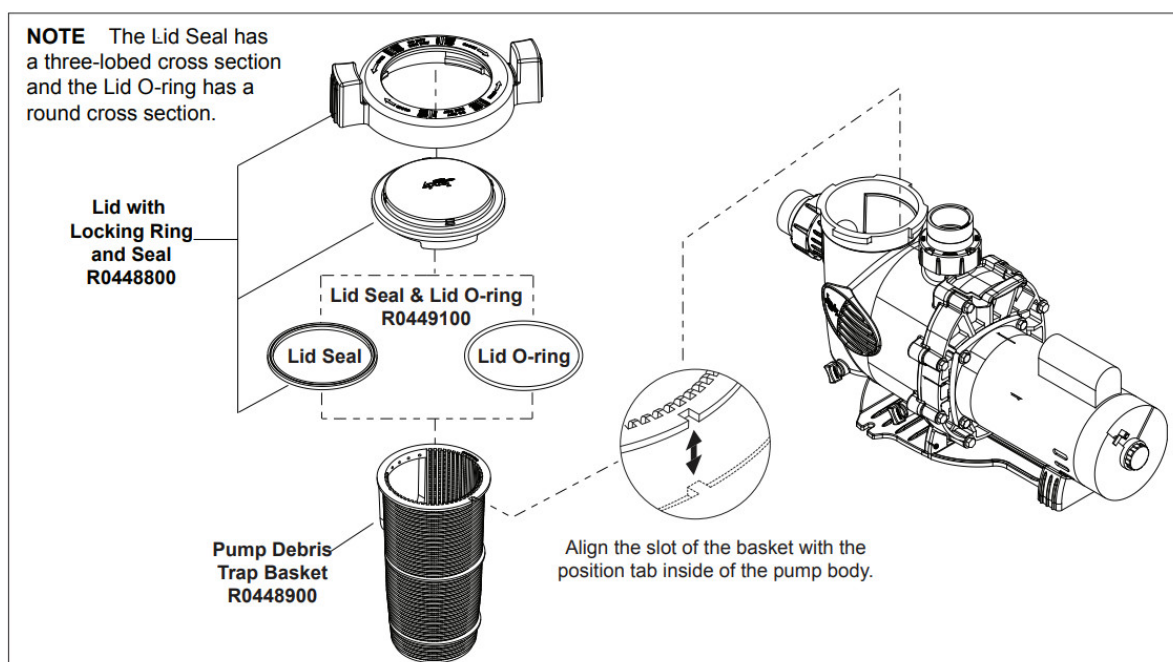

Figure 1. Exploded View of PHP, WFTR, and MHP Pump Parts
These replacement kits are designed to be used with both newer and older model Jandy PHP, WFTR, and MHP Pumps. Refer to Figure 1 and the parts list on this page to identify the parts in each kit.
4. Place the new pump debris trap basket into the pump. Make sure that the slot of the basket is aligned with the positioning tab inside the pump housing. (See Figure 1.) If aligned properly, the basket will drop easily into place. Do not force it into place.